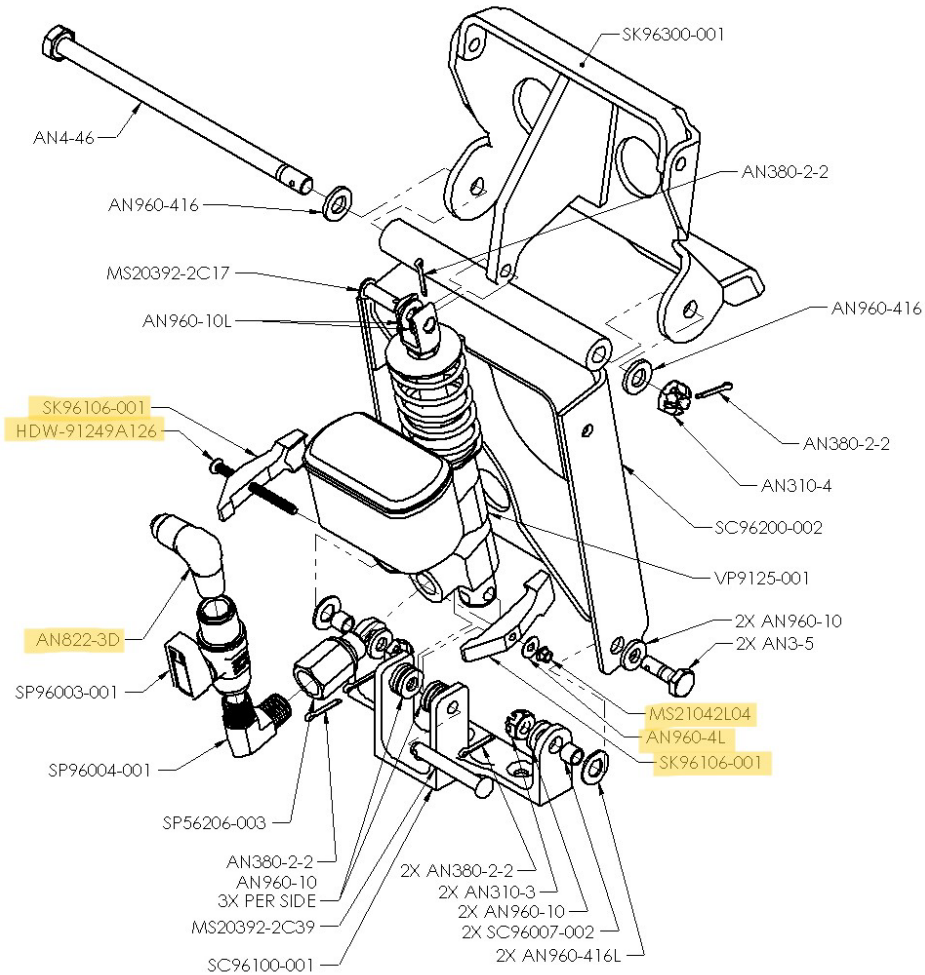

Figure 2: Parking Brake Installation (LH Shown)
7. Reattach the components in the proper orientation using Figure 2 as reference. Apply RM0567-001 Loctite 567 on the male NPT threads during the assembly. The first one to two threads should be left uncovered to avoid system contamination. In addition, ensure that all connectors are screwed to at least finger tight.
8. First connect the brass elbow fitting ensuring that it points upwards. Connect the valve to the brass elbow fitting, ensuring that the valve ends up oriented as shown on Figure 2. Connect AN822-3D to the valve and connect the brake line to it as well. Install SK96106-001 and the associated hardware as shown in Figure 2 to retain the assembly in the correct orientation.